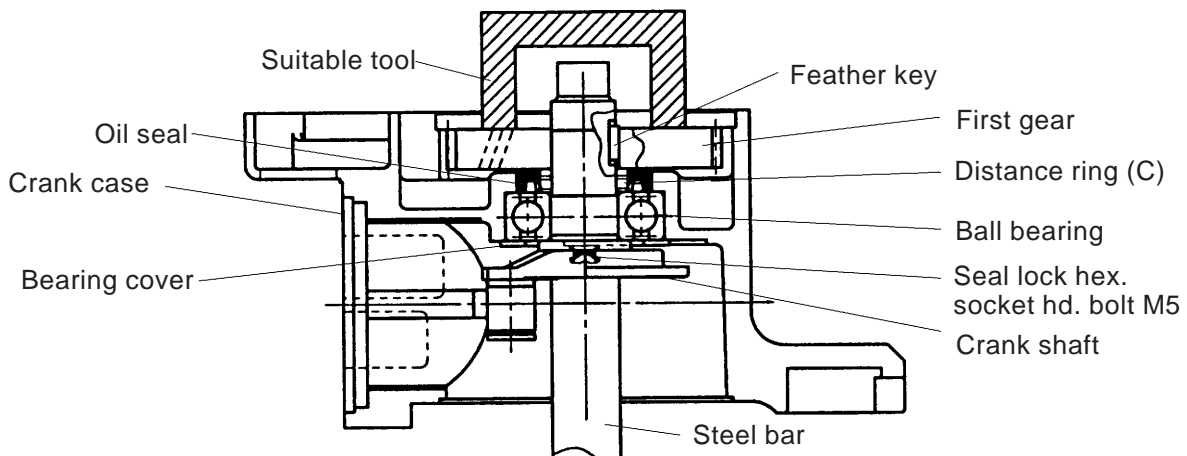

Fig. 4
Press-fit the Ball Bearing [47] in the Crank Case [38] and fix the Bearing Cover [46] with the two Seal Lock Hex. Socket Hd. Bolts M5 [45]. Press-fit the Crank Shaft [43]. Then press-fit Distance Ring (C) [49] and mount the Oil Seal [48]. Put the Feather Key [44] into the groove of the Crank Shaft [43] and press-fit the First Gear [54] with a suitable tool while holding the flat portion of the Crank Shaft [43] with a steel bar. Before press-fitting, make sure that the Feather Key [44] fits in the key groove of the First Gear [54] (Fig. 4).